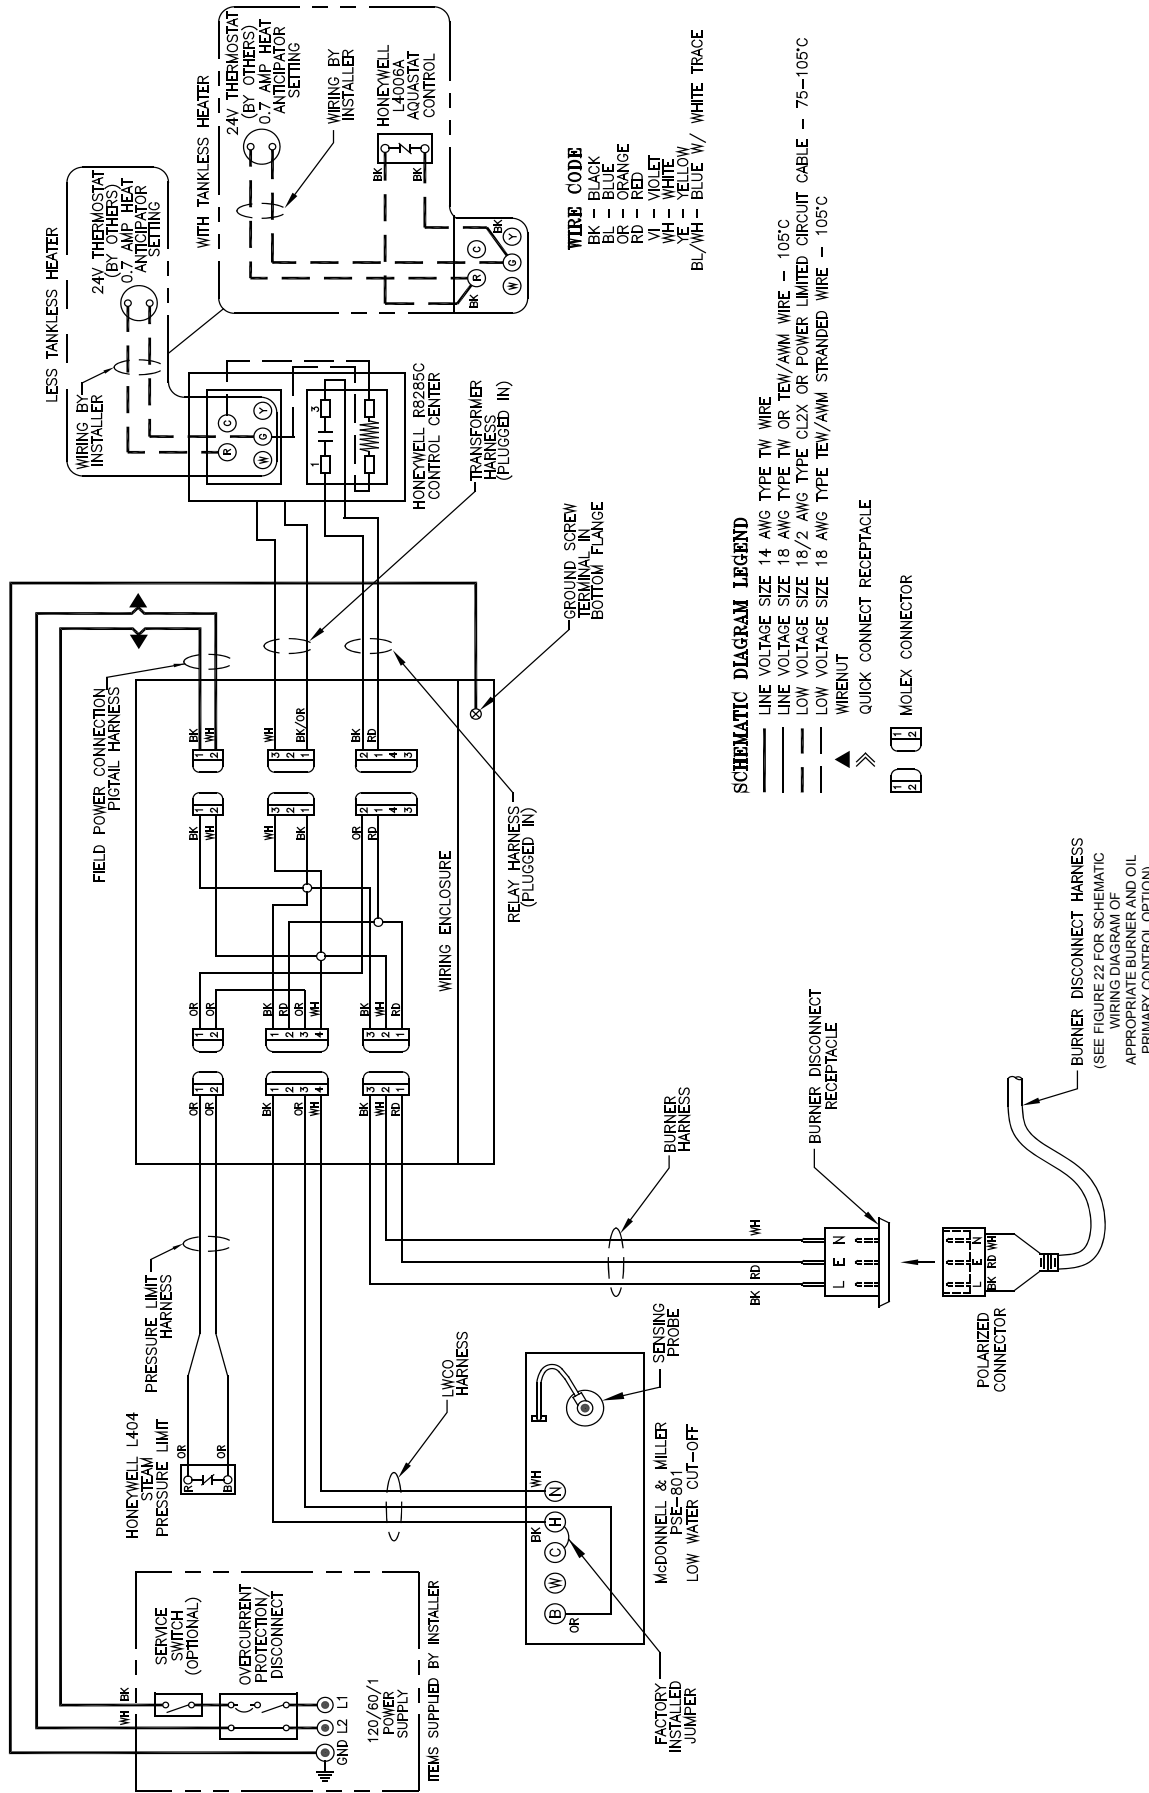
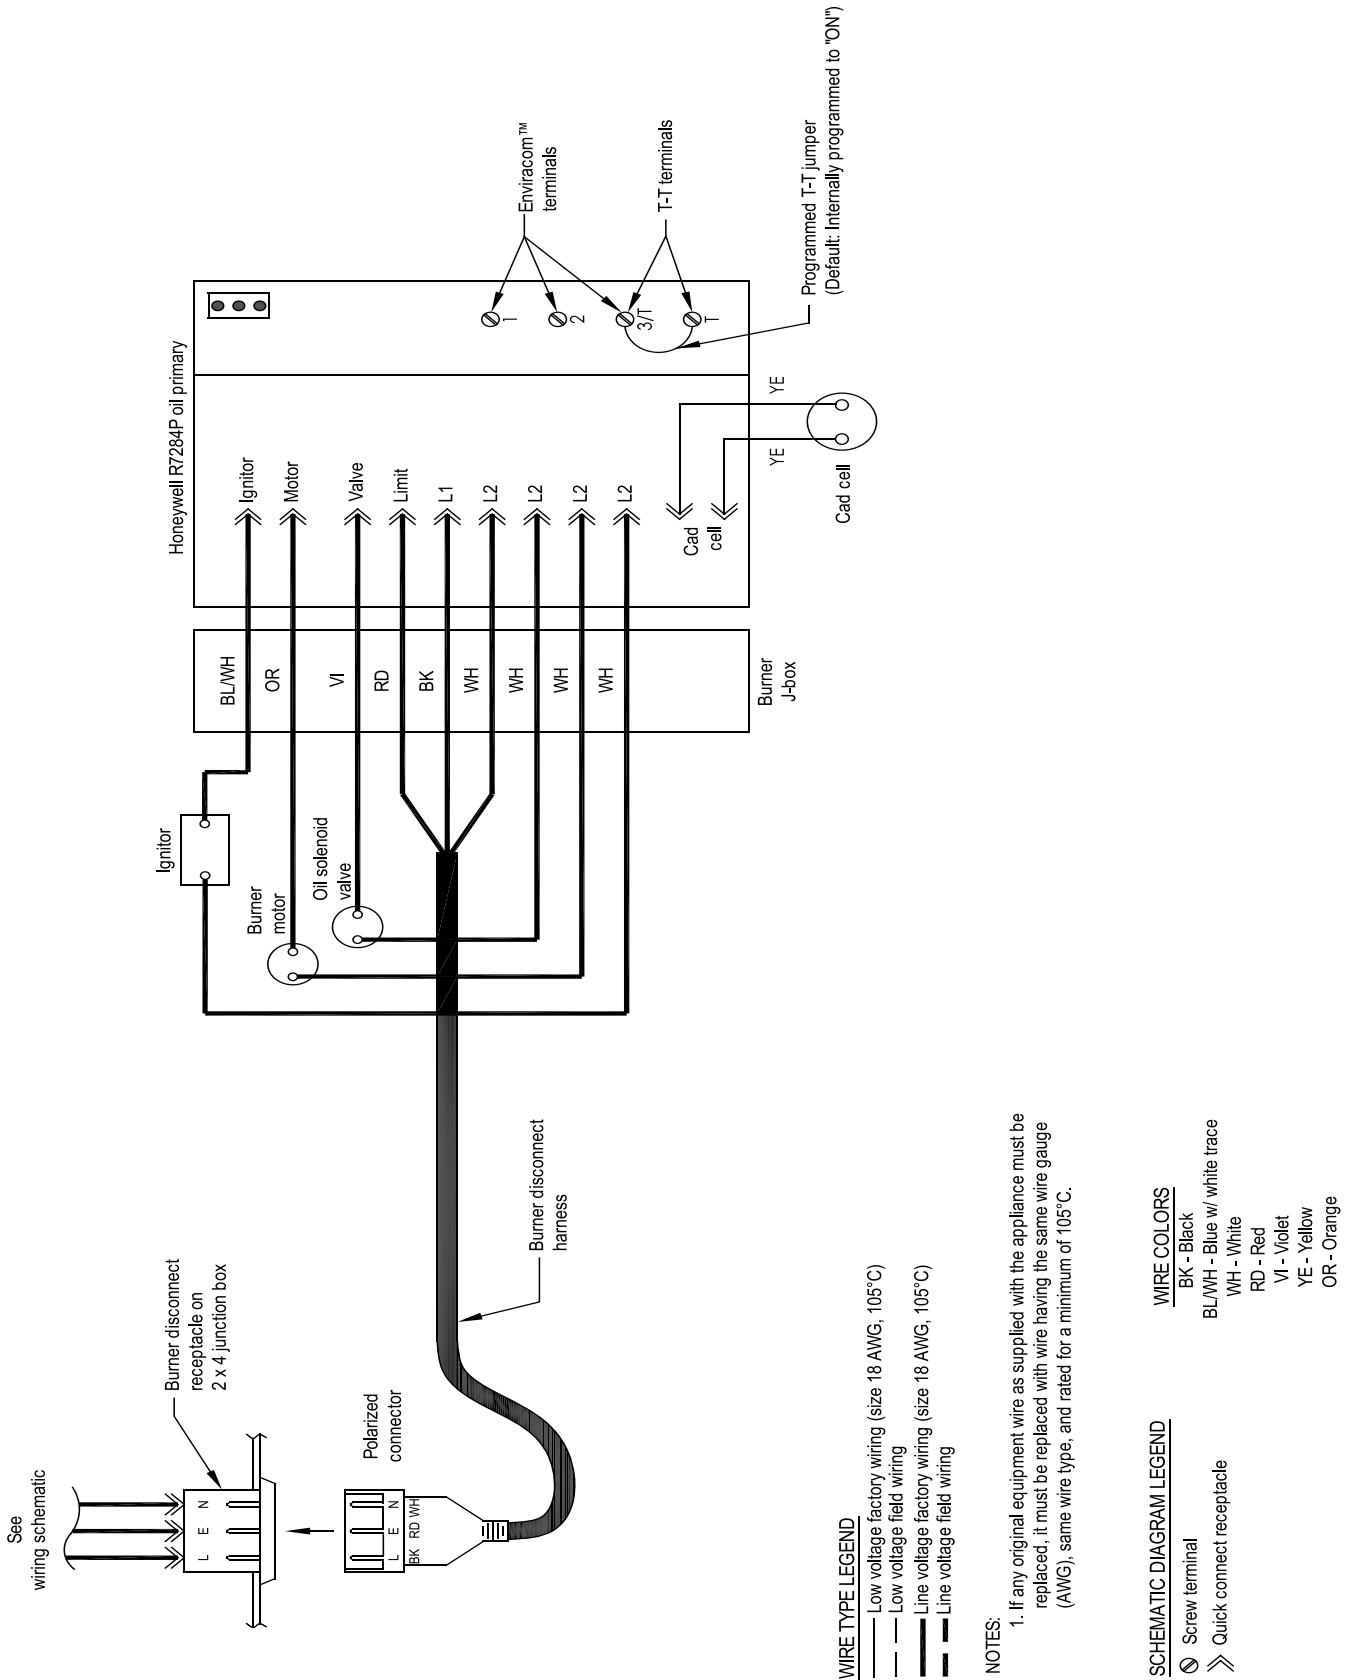
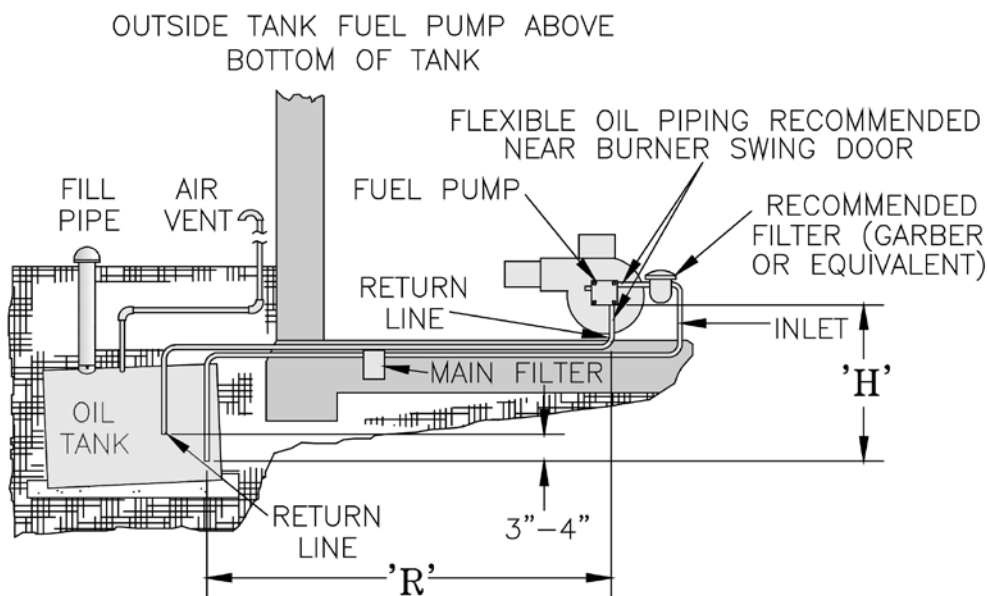

Figure 21: Wiring Diagram, McDonnell & Miller PSE-801 Probe LWCO
Figure 22: Wiring Diagram, All Burner Options with Various Oil Primary Controls
Figure 24: Two Pipe Oil Lines
BOILER SEQUENCE OF OPERATION WITH PROBE LWCO (See Figure 21)
1. For two piped systems, where more lift is required, the two-stage fuel unit is recommended. Table 9 (two-stage) and Table 10 (single-stage) show allowable lift and lengths of 3/8 inch and 1/2 inch OD tubing for both suction and return lines. Refer to Figure 24.
Lift "H" (See Fig. 22)	Maximum Length of Tubing "H" + "R" (See Figure 24)
Lift "H" (See Fig. 21)	Maximum Length of Tubing "H" + "R" (See Figure 24)